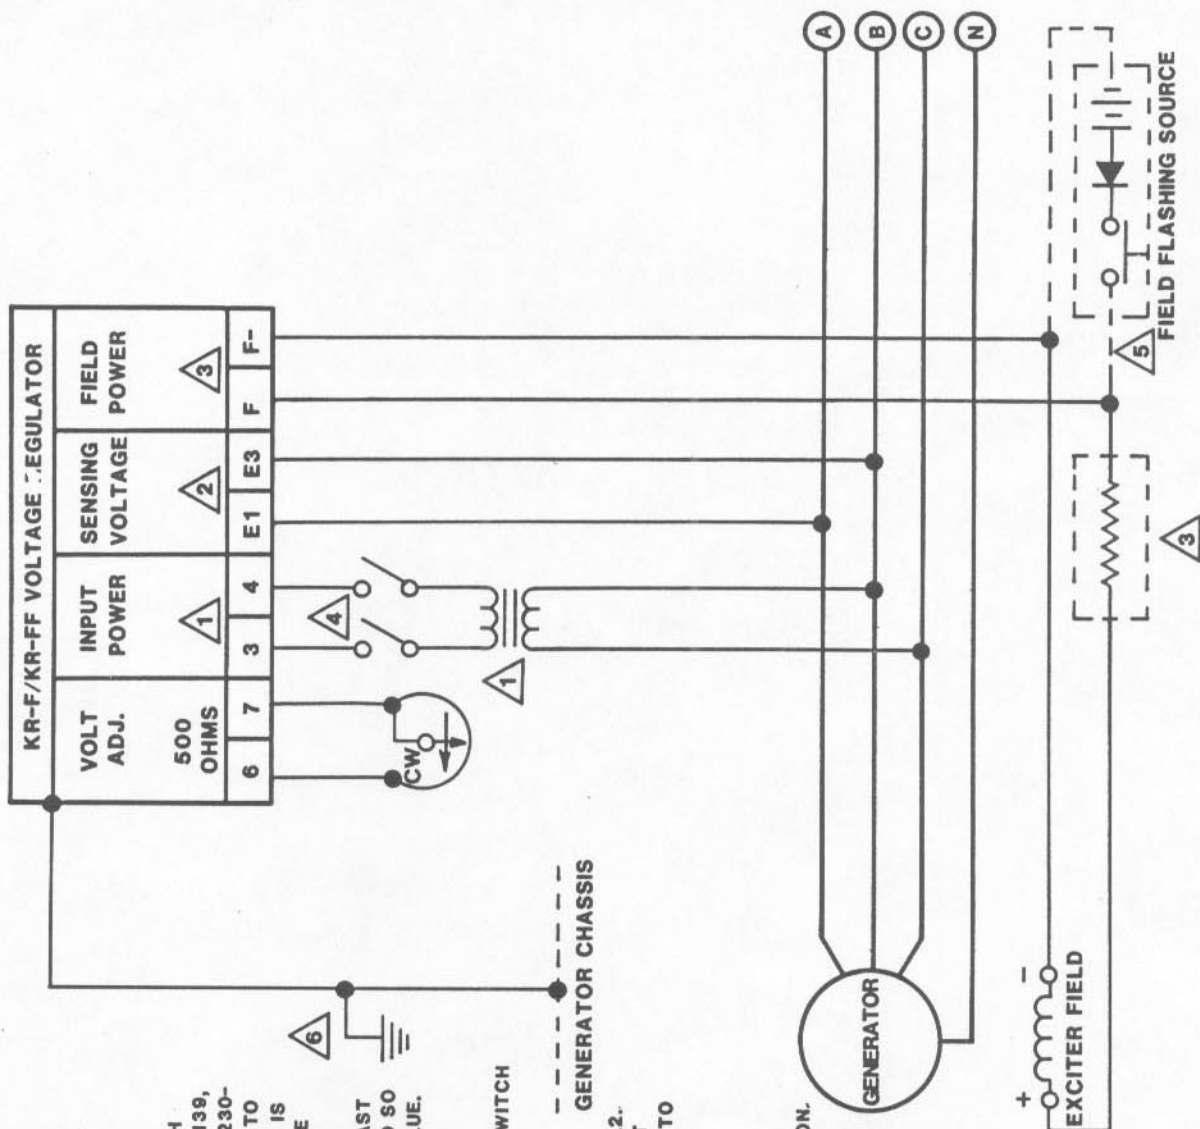

Figure 4-1. Interconnection Diagram (Typical).
This 500 ohm, 25 watt rheostat is supplied as a separate item for panel mounting. It provides adjustment of the regulated generator voltage  $\pm 10\%$  of nominal. When connected as shown in Figure 4-1 adjusting it to its maximum resistance position (CCW), minimum generator voltage is obtained. Maximum generator voltage is obtained with minimum resistance (CW).
When nominal 50 hz sensing voltages are required, this control is used to establish the desired nominal sensing voltage. This is done in the following manner: (1) set the External Voltage Adjust Rheostat (paragraph 3.1) to the middle of its adjustment range, (2) insure that the appropriate sensing voltage connection is made (paragraph 3.4) and that the 50 Hz connection is made (paragraph 3.5), (3) with the regulator properly connected into the system (Figure 4-1) bring the generator up to rated frequency (50 Hz), (4) while watching the generator voltmeter, adjust the Internal Voltage Range Adjustment until the nominal generator voltage is obtained. (Voltage increases with CW rotation). After the Internal Voltage Range Adjustment has been properly set, the External Voltage Adjust Rheostat will provide voltage adjustment  $\pm 10\%$  of nominal. NOTE: This voltage range adjustment capability exists with 60 Hz operation as well.
#### 4.1 INTERCONNECTION (See Figure 4-1)
The regulator connects with the generator system as shown in the overall interconnection diagram, Figure 4-1. Number 14 gauge wire or larger should be used for connections to the voltage regulator.
This section contains operation and adjustment procedures. Before operating, make certain that the regulator is connected into the system as shown on the Interconnection Diagram (Figure 4-1). Even momentary operation with an incorrect connection can damage this control equipment.